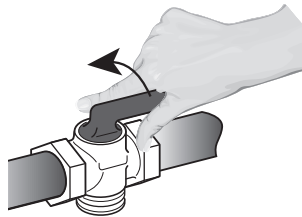

Figure 8
- 2 Shut off the gas supply to the appliance by closing the manual shut-off valve (see Figure 8). Disconnect electrical power to the appliance before servicing. Do not remove regulator or allow it to turn during servicing.